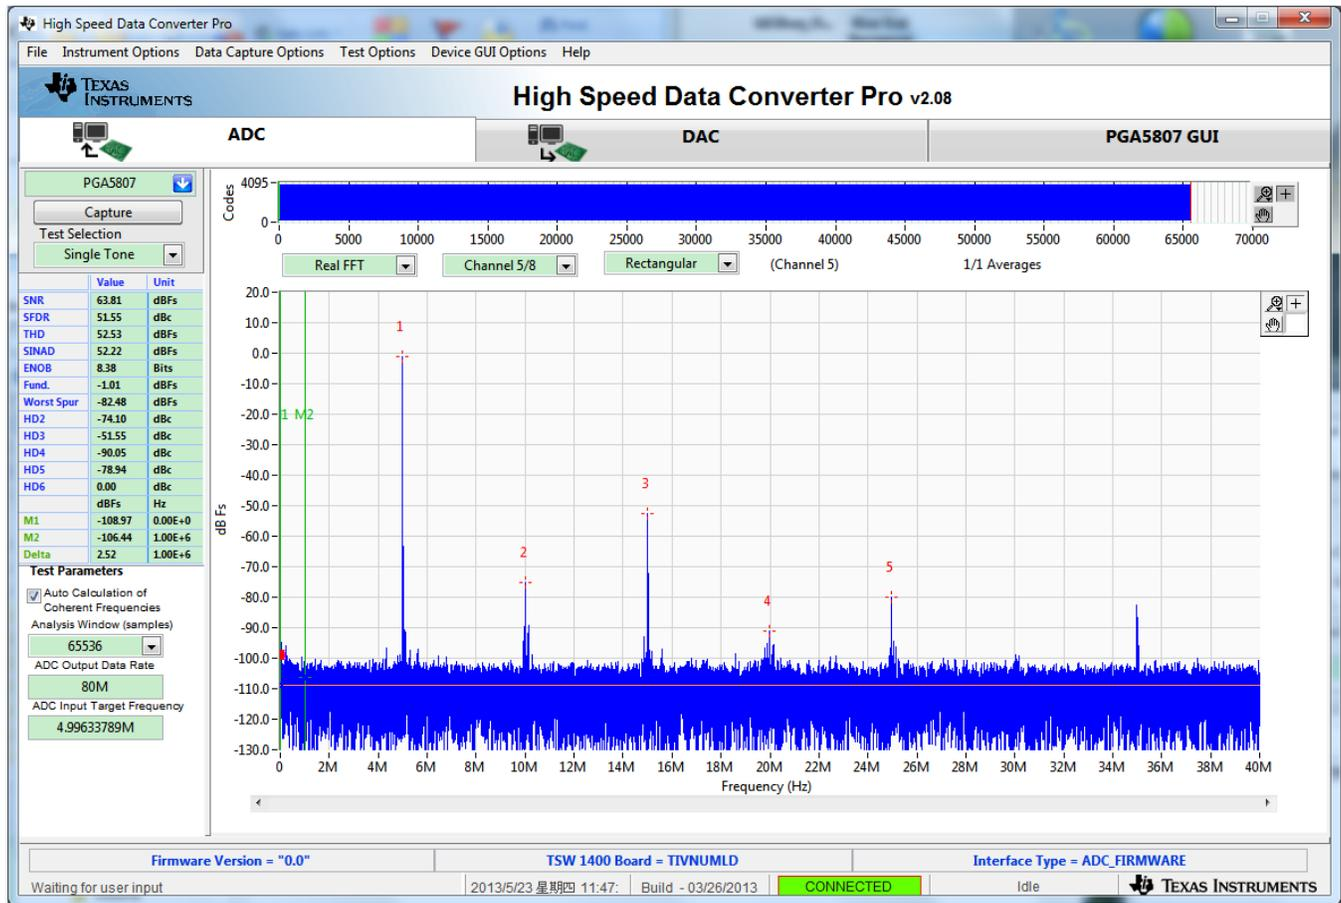

Figure 45. PGA5807+ADS5296 SNR, THD, Gain Test Capture 1
- Click on the *ADC* tab and press *Capture* to see result similar to Figure 45. Take note of the *Fund.* value in the table to the left. In a similar manner to that described in Section 4.3, the input signal amplitude to the PGA5807 should be adjusted and a re-capture done iteratively until the *Fund.* value is approximately -1.0 dBFs. As -1.0 dBFs is the ADC level at which datasheet specifications are set, the *SNR* and *THD* of the signal chain can be taken from the table to left at this value of *Fund.*